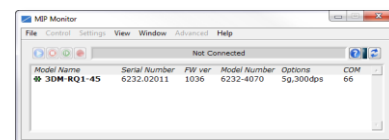

Figure 2: MIP™ Monitor Main window
2. The software will automatically search for the 3DM-RQ1™ -45 and display it in the Device pane. The Model Name, Serial Number, Firmware Version, Model, Options and COM port will be displayed as shown in Figure 2.